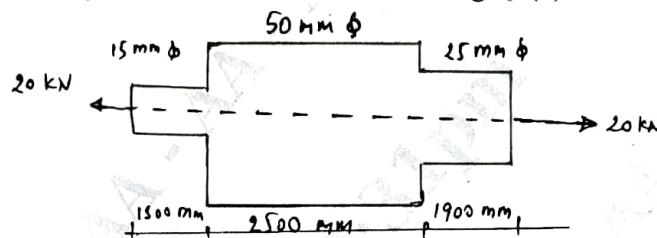

Fig.Q2(b)
- b. A stepped bar is pulled by 20 KN force as shown in the Fig.Q2(b).